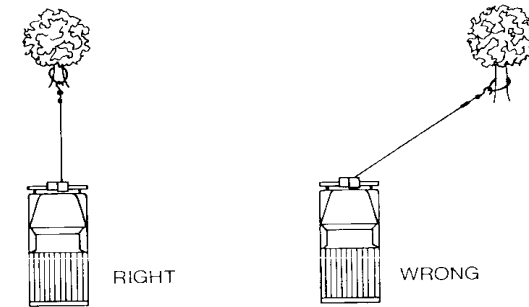

Fig. 6
13. **AVOID CONTINUOUS PULLS FROM EXTREME ANGLES** as this will cause the wire rope to pile up on one end of the drum (See Figure 6). This can jam the wire rope in the winch causing damage to the rope or the winch itself.